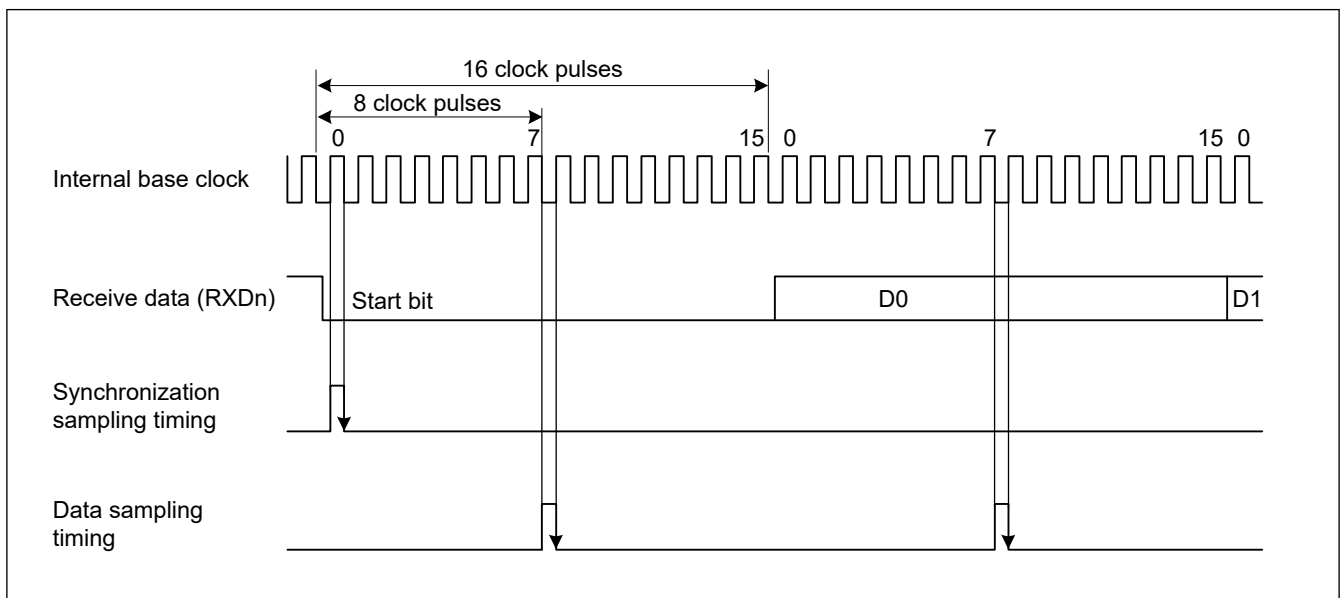

Figure 25.3 Receive data sampling timing in asynchronous mode
Because receive data is sampled on the rising edge of the 8th pulse\*1 of the base clock, data is latched at the middle of each bit, as shown in Figure 25.3 The reception margin in asynchronous mode is determined by the following formula (1):